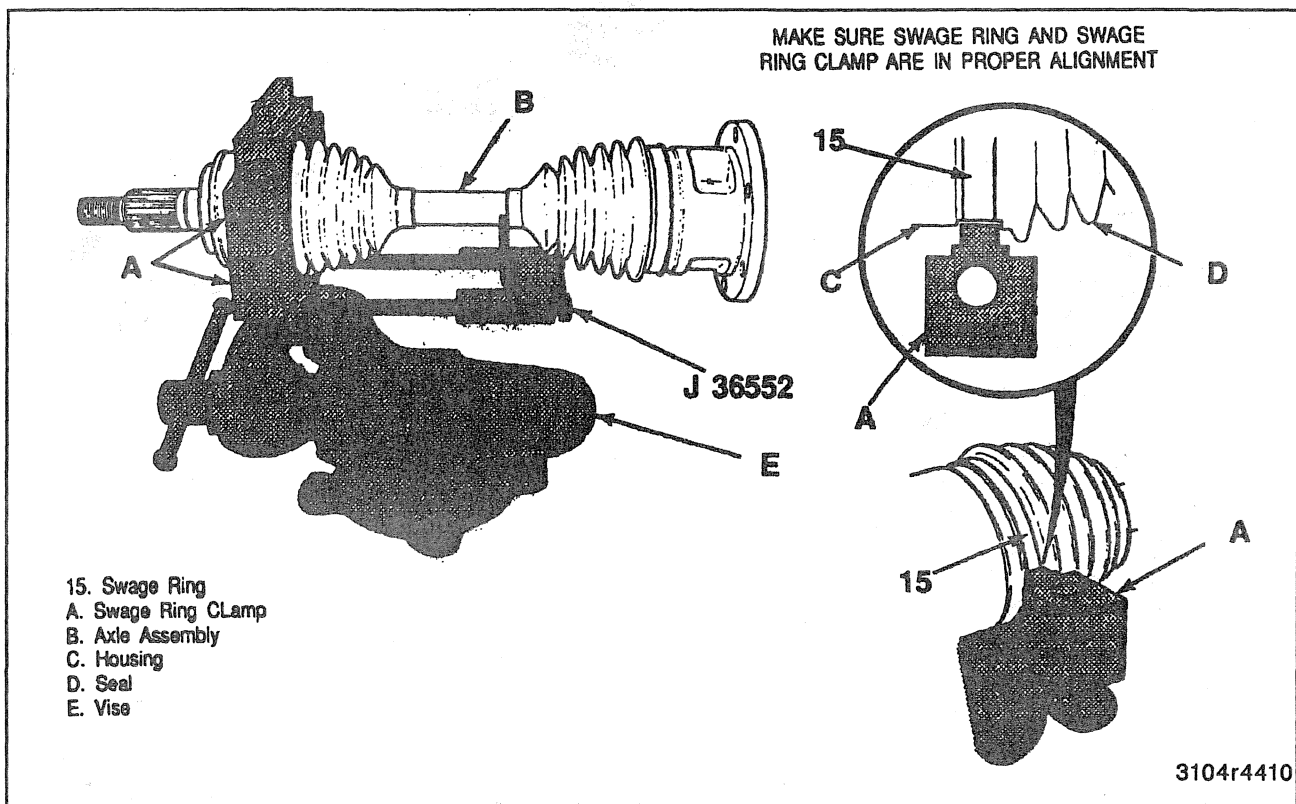

Figure 15—Installing Swage Ring
- Slide large diameter of the seal (12) with the large swage ring (9) in place over the outside of the C/V joint race (18) and locate the seal lip in the housing groove (figure 15).
- The seal (12) must not be dimpled, stretched or out of shape in any way. If the seal is not shaped correctly, carefully insert a thin flat blunt tool without no sharp edges between the large seal opening and the outer race (18) at maximum clearance of oval ring (9) to release the air. Shape the seal by hand and remove the tool.
- Refer to the chart in figure 15 and select the correct size swage clamp tool J 36652.
- Make sure the seal (12), housing (18), and swage ring (9) all remain in alignment (figure 15).
10. Return the swage ring (9) to position on seal (12).
- Refer to the chart in figure 15 and select the proper size swage clamp tool J 36652.
- B. Place the top half of the proper size tool on the lower half of tool and check for proper alignment and dimension (figures 15 and 23).
- Make sure that the seal, housing, and swage ring (15) all remain in alignment (figure 15).